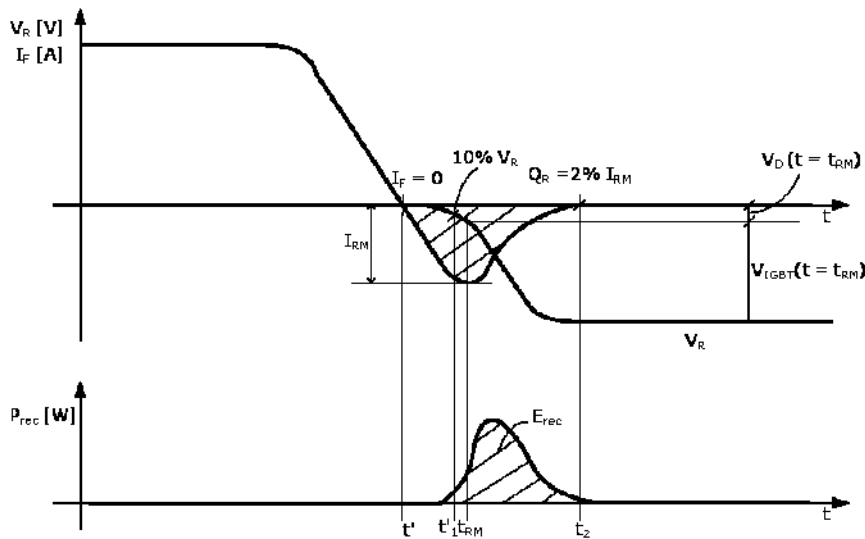

Figure 33: Schematic voltage and current waveform of a soft-recovery diode during turn-off transition
Figure 33 describes the current commutation from a high-side (HS) freewheeling diode to a low-side (LS) IGBT.
The commutation is triggered by turning-on the LS-IGBT which will not reduce the blocking voltage to roughly zero immediately. It will keep a portion of blocking voltage during the commutation. Due to the fact that the HS-diode is still on, the difference $V_L = V_R - V_{IGBT}$ will drop across the stray inductance causing a linear change of current. The diode current will reduce in the same way as the IGBT current increases. As soon as the diode current at $t = t'$ crosses zero, a space charge region within the diode can be formed. Hence the voltage drop across the diode increases as can be seen in Figure 33.
The reverse recovery of the diode will lead to additional turn-off losses as well as additional turn-on losses in the complementary switch. A current and voltage waveform of a soft-recovery emitter controlled diode during turn-off transition can be seen in Figure 33
The integration limits are defined as $t = t'_1 @ I_F = 0$ and $t = t'_2 @ |I_F| \leq 0.02 \cdot I_{RM}$ as marked in Figure 33.